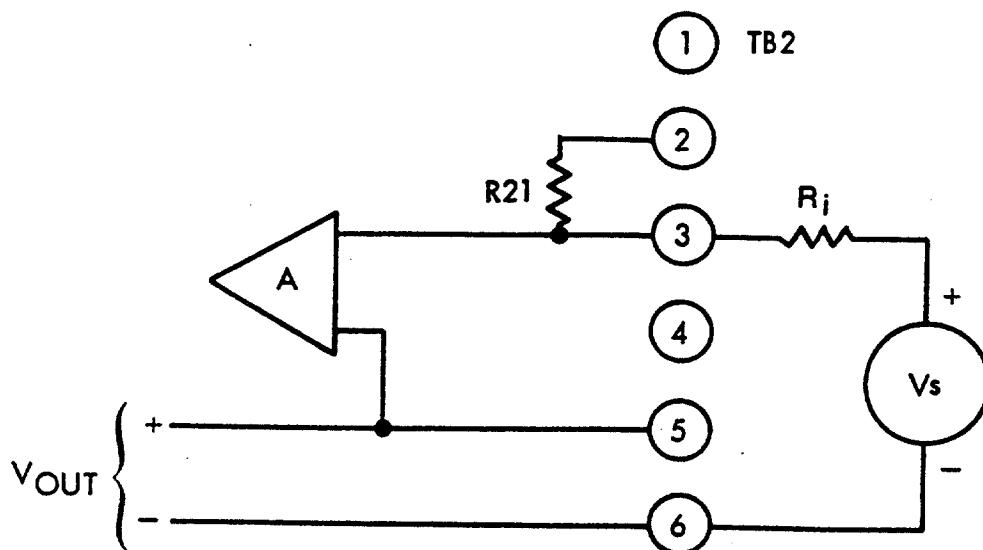

Figure 3-1 Unity Gain
- a. Unity Gain (1V/V) (Figure 3-1)
- 4) Connect the signal programming source between TB2-3 and TB2-6 using a series resistor  $R_i$  as shown on Figure 3-1. Select  $R_i$  based on the rated maximum voltage of the SRL and 200 ohms per volt (e.g., 60V SRL units will use  $R_i$  of 12K). Use a precision 1/2 watt resistor such as the RL 20S type. Observe the proper polarity of signal source (negative) on TB2-6.